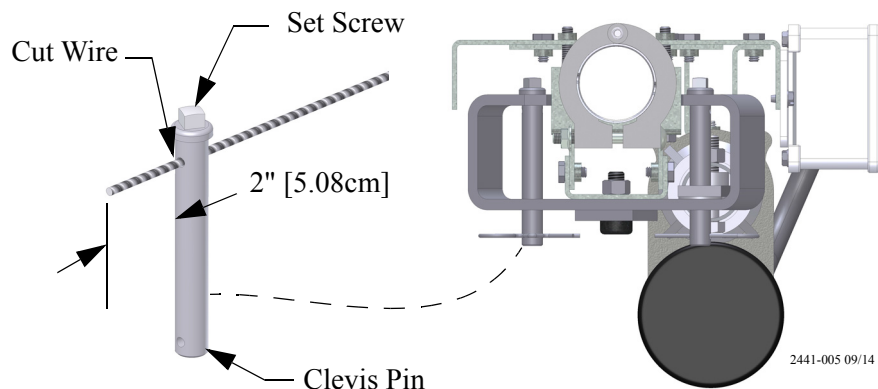

Figure 63. Actuator Wire and Clevis Pin
- Allow a minimum of 2" [5.08 cm] of actuator wire to extend past the clevis pin then cut the actuator wire. (**Figure 63.**)
- Tighten the set screws on the clevis pins so they clamp down on the actuator wire, **see figure 63.**